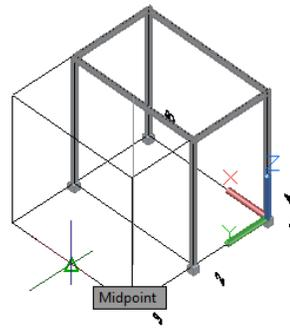
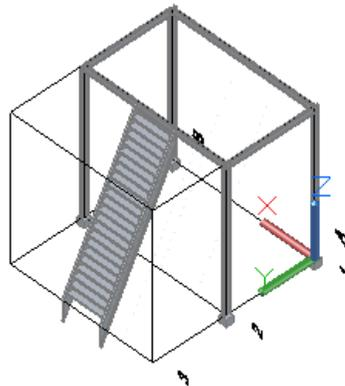

Figure 3-43 Selecting the second point
Figure 3-44 Model after creating stairs
- Select the midpoint of the bottom grid line, as shown in Figure 3-43; a line is placed between the two specified points. Press ENTER to create the stairs on the specified line, as shown in Figure 3-44.